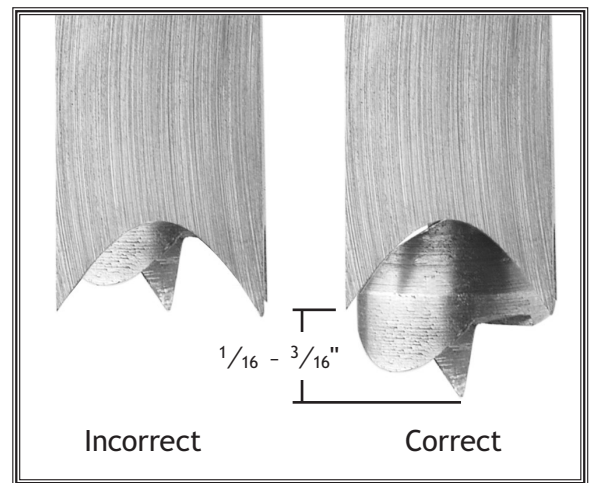

Figure 11. Drill bit extension.
4. Install and tighten the drill bit in the chuck so it extends 1/16"–3/16" beyond the chisel (Figure 11). The correct distance depends on the wood type and operation.